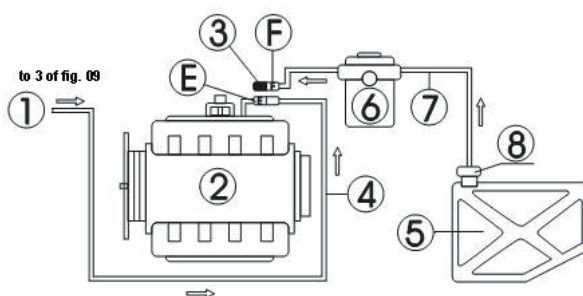

Fig.10
The hose line connection of the engine without return hose is shown as in Fig.10.
- Disconnect the fuel supply hoses (E, F) of engine fuel system (wrap the connector when disconnecting the connector), and then choose a proper connector and connect it to the E end. Reconnect the fuel outlet hose of the unit well and make the fuel return hose hanging. See Fig.10.
- Stop the other end of the disconnected end (F) with a proper stopper, (use when the fuel pump has the fuel return function only) or remove the fuse of fuel pump or disconnect the power cable of fuel pump.